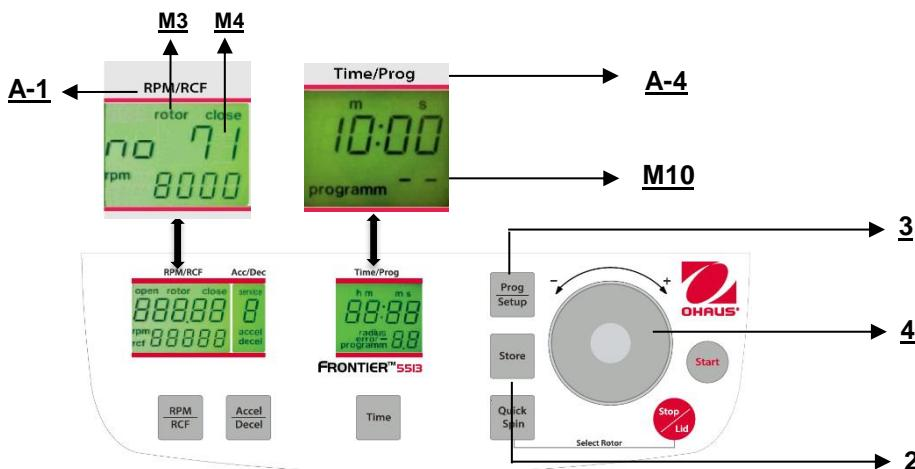

Figure. 23
To recall stored programs press the key "**Prog/Setup**" (3) (refer to figure 23) while the lid is already closed. Inside the display "**Time/Prog**" (A-4), "**programm --**"(M10) appears. The desired program number can be pre-selected with the adjusting dial (4).
To leave the program mode just press the key "**Prog/Setup**" (3) (refer to figure 23). Then inside the display "**Time/Prog**" (A-4) the word "**programm**"(M10) appears.